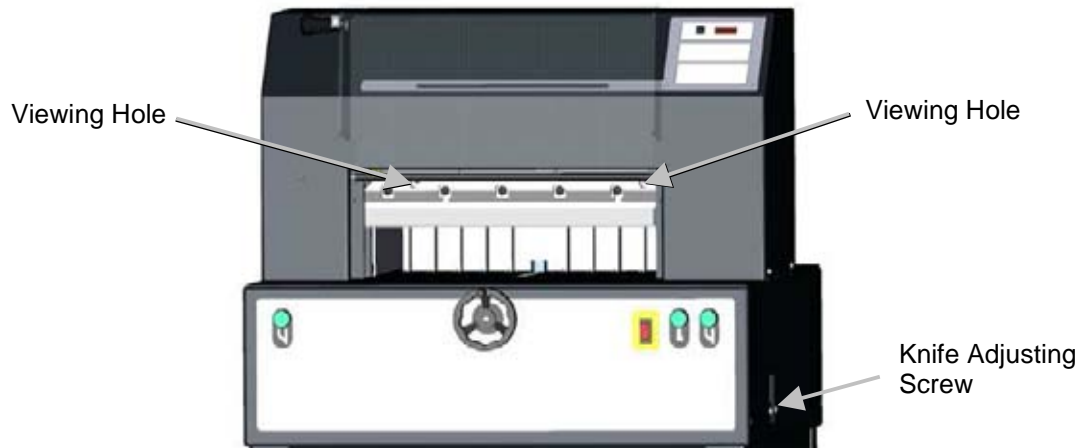
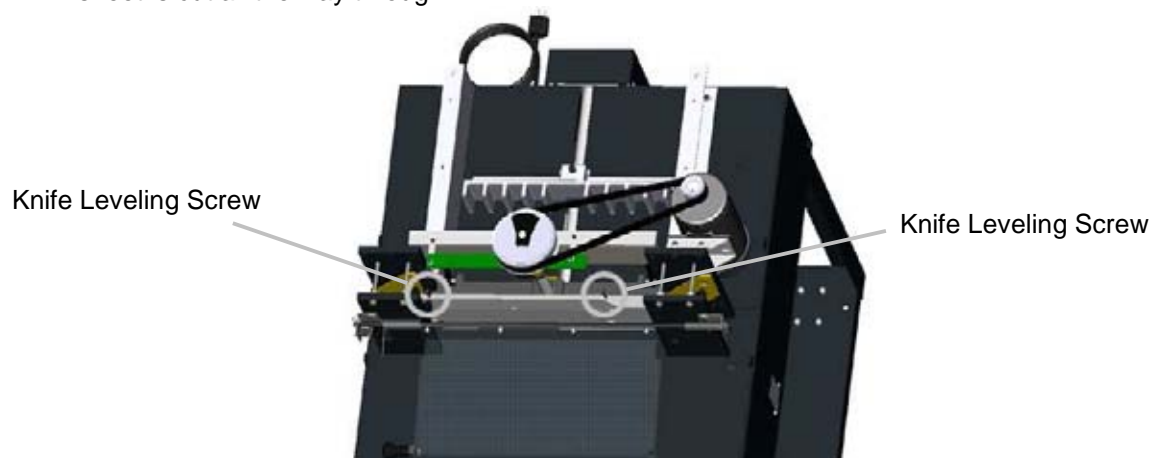

Figure 10
Figure 11
If knife cuts through one side of paper and not the other, the knife level may need adjustment. First check to make sure the knife is installed in the correct position by looking through the viewing holes in the knife bar (Figure 10, page 17). If the knife is not all the way up on both sides, loosen the knife screws and use knife lifter assembly to raise knife up tight. Then tighten screws and recheck by cutting through paper.
1. Flip the cut stick to a new position and raise the knife depth by several turns of the knife adjusting screw (Figure 10).
6. Slightly loosen the remaining (5) knife screws, keeping them somewhat snug.
7. Adjust the knife leveling screw (Figure 11) that corresponds with the side of the knife which does not cut all the way through. Tug on the paper while adjusting and stop when the bottom sheet is cut all the way through.